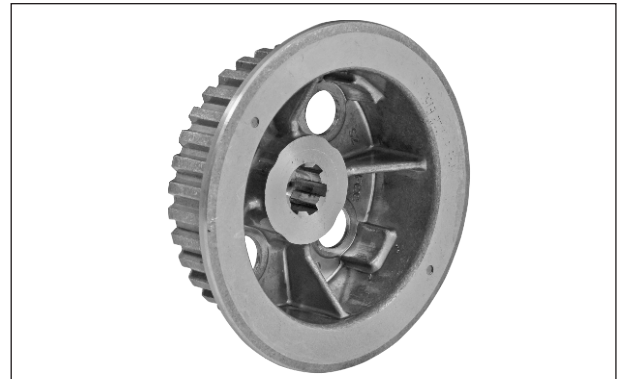

Fig. 3.21
- Inspect the hub clutch for wear. If any ridges or cuts formed on the hub clutch by the clutch plates, replace with a new one. Also check the lubrication holes for any blockage. (Fig. 3.21)